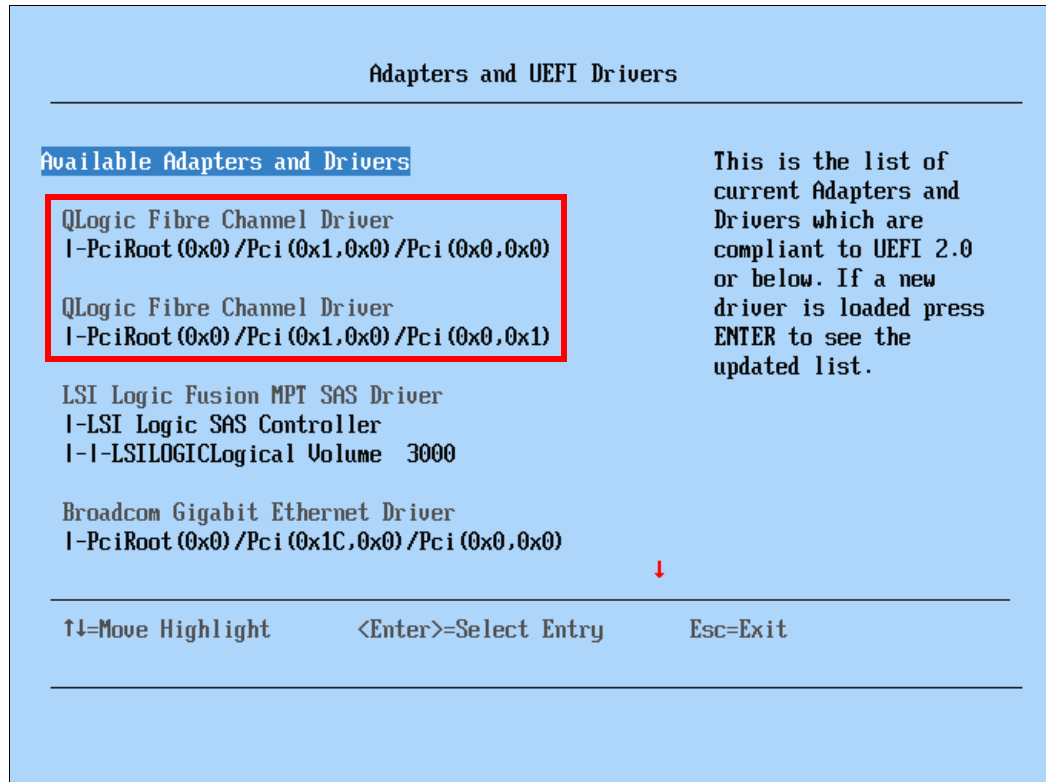

Figure 8-71 Adapters visible in UEFI
- ▶ Check to make sure that UEFI recognizes the HBA. Select **UEFI** → **System Settings** → **Adapter and UEFI Drivers**. When you press Enter, the respective HBA is visible, as shown in Figure 8-71. If it is not visible, you might need to reflash the UEFI, IMM, and firmware of the HBA and check again.